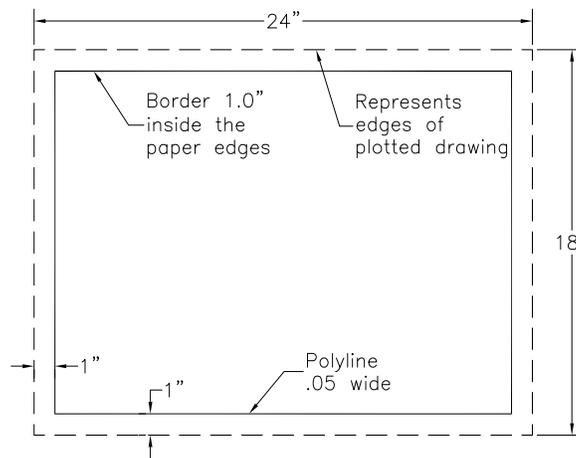

Figure 1-24 Prototype drawing
Create the prototype drawing, as shown in Figure 1-24 with the following specifications (the name of the drawing is *protoe6.dwt*):
- Plotted sheet size 24" x 18" (Figure 1-24)
- Border The border is 1" inside the edges of the plotted drawing sheet, using the PLINE 0.05" wide when plotted (Figure 1-24)